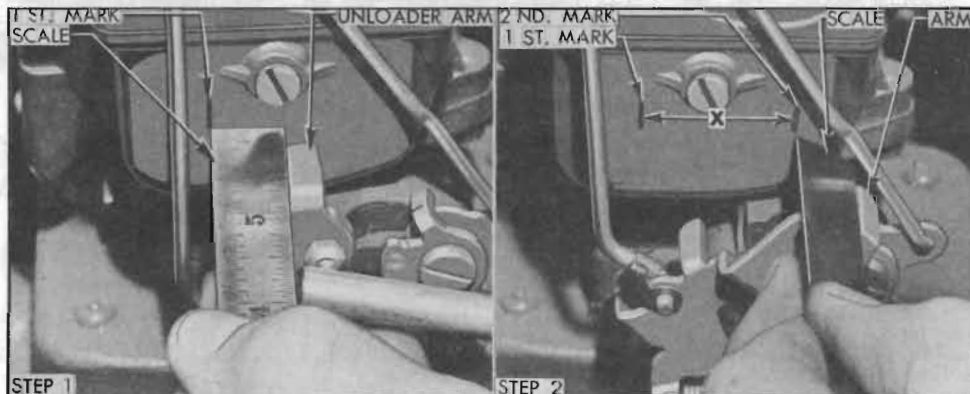

Figure 10-32—Checking Carter Accelerator Vacuum Switch Timing
3. While holding throttle valve fully closed, hold a scale (or other strip of metal  $\frac{5}{8}$ " or more wide) against the choke unloader arm of throttle lever and make a pencil mark on float bowl at opposite edge of scale. See figure 10-32, step 1.
point where the drive pinion just engages fly-wheel ring gear (or test lamp lights) make a second mark on float bowl at same edge of scale. See figure 10-32, step 2.